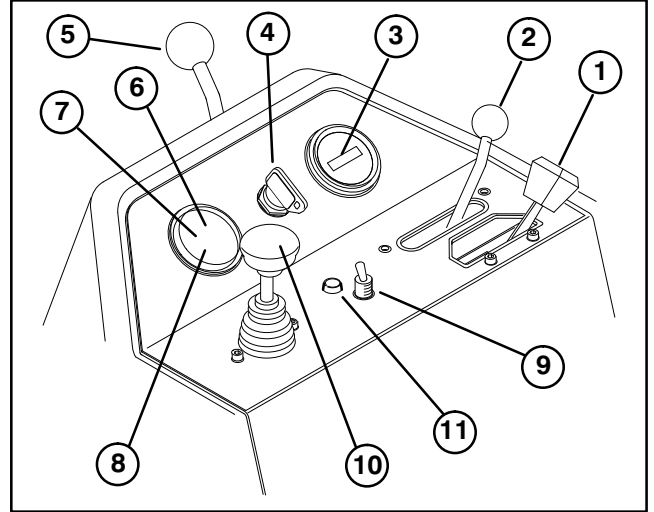

Figure 18
Choke Control (Fig. 18) – When starting a cold engine, move choke control forward. After engine starts regulate choke to keep engine running smoothly. As soon as possible, move choke rearward.
Functional Control Lever (Fig.18) – Provides two (2) traction selections, plus a “NEUTRAL” position. It is permissible to shift from mow to transport or transport to mow (not to neutral) while the Greensmaster 3200 is in motion. No damage will result.
Hour Meter (Fig.18) – Indicates the total hours of machine operation. The hour meter starts to function whenever the key switch is rotated to “ON”.
Ignition Switch (Fig. 18) – Insert key into switch, turn clockwise as far as possible to “START” position to start engine. Release key as soon as engine starts; key will move to “ON” position. Turn key counter–clockwise to “OFF” position to stop engine.
Steering Arm Locking Lever (Fig.18) – Rotate lever rearward to loosen adjustment, raise or lower steering arm for operator comfort, then, rotate lever forward to tighten adjustment.
Water Temperature Light (Fig. 18) — Light glows and engine automatically shuts–down when engine coolant temperature gets too high.
High Temperature Override Button (Fig. 18) —If engine kills due to an over heat condition, press over ride button in and hold until machine can be moved to a safe location and allowed to cool down.
Two Speed Transport Switch (Fig. 18) – When switch is moved to forward position, engine will run at maximum engine speed (2800 rpm). When moved to rear position, engine will run at a slower engine speed (2300 rpm) for quieter operation.
Battery Warning Light (Fig. 18) – Light glows if battery charge is low.
Oil Pressure Light (Fig. 18) — Light glows if engine oil pressure drops below a safe level.
Raise / Lower – Mow Control (Fig 18) – Moving control forward, with functional control lever in MOW, lowers the cutting units and starts the reels. Pull back on control to stop reels and raise cutting units. During operation reels can be stopped by pulling back on control momentarily and releasing. Restart reels by moving control forward.